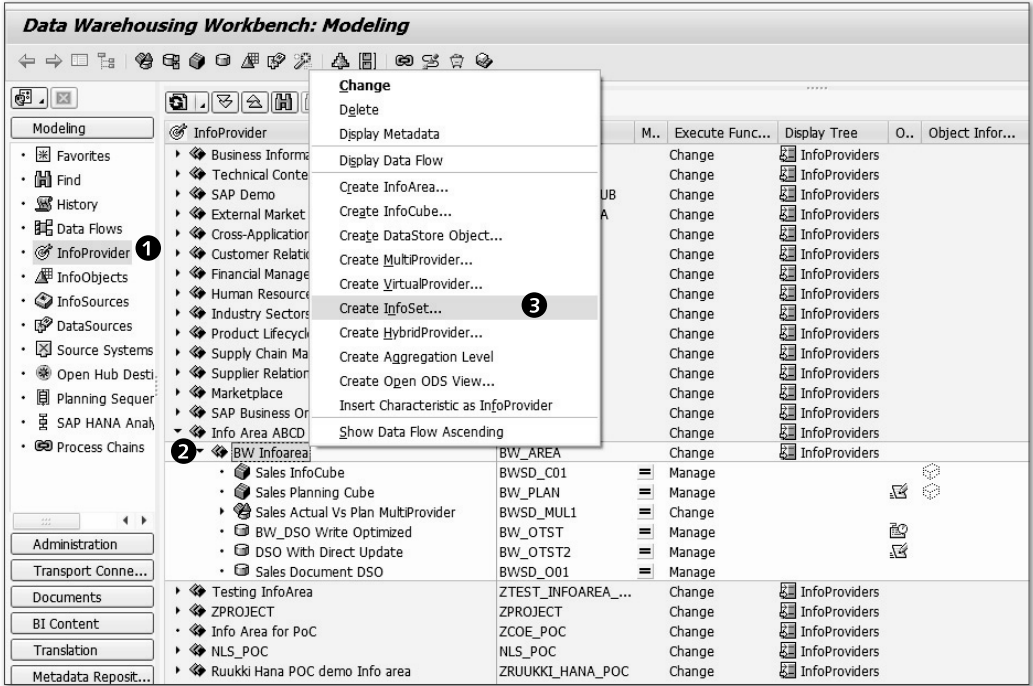

Figure 6.19 Creating the InfoSet
To begin, open the DATABASE WAREHOUSING WORKBENCH screen using Transaction RSA1. Under MODELING in the navigation section, select INFOPROVIDER, as shown in ❶ of Figure 6.19. InfoSets are created under an InfoArea. From the tree section of the screen, select the InfoArea to which you want to attach your InfoSet ❷. In this example, BW INFOAREA is selected.